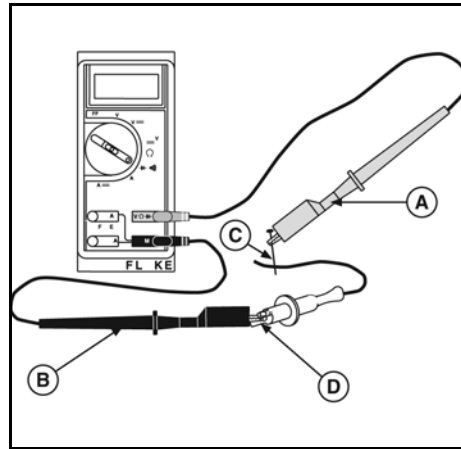

Figure 18
- Insert RED test lead (A, Figure 18) into the V  $\Omega$  receptacle and set the rotary switch to Diode position.
- Insert BLACK test lead (B) into the COM receptacle in the meter.
- Attach RED test lead clip to (C) and Black test lead clip to point (D). (It may be necessary to pierce wire with a pin as shown.)